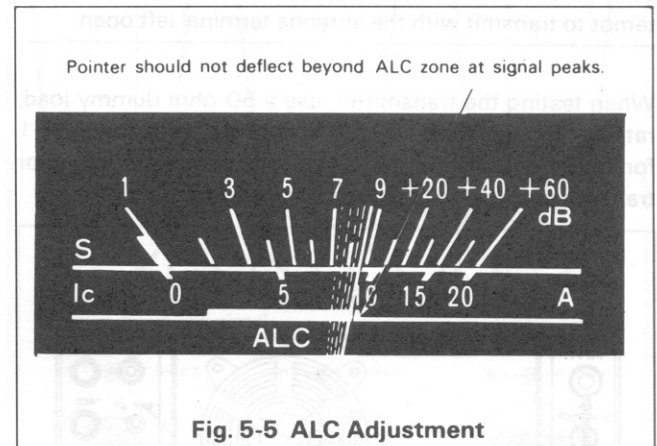

Fig. 5-5 ALC Adjustment
5.2.7. MIC GAIN CONTROL (Fig. 5-5)